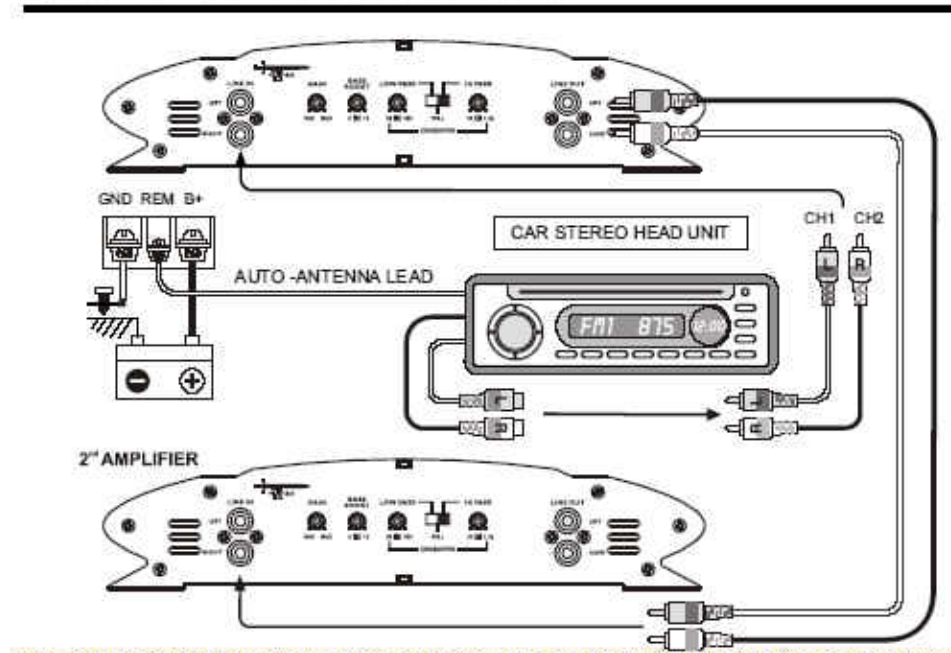

Fig.3.
- Connect the low level/line level RCA cables from the head unit, or signal processor, to the line level input on the amplifier. See Fig.3 system wiring diagrams.